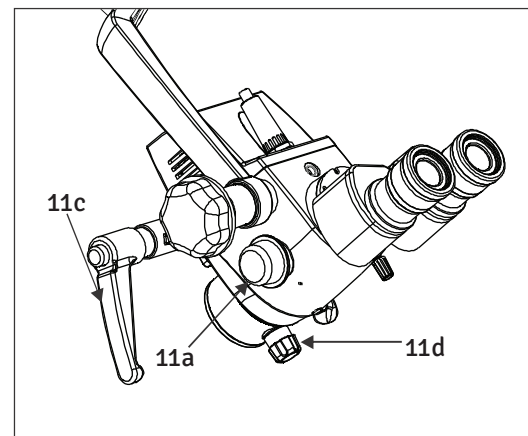

Fig. 13
## SETTING UP OF MAGNIFICATION (Ref. Fig. 13)
2. Fine focusing is done by knob provided on CMO shown as (11d) in fig. 13.